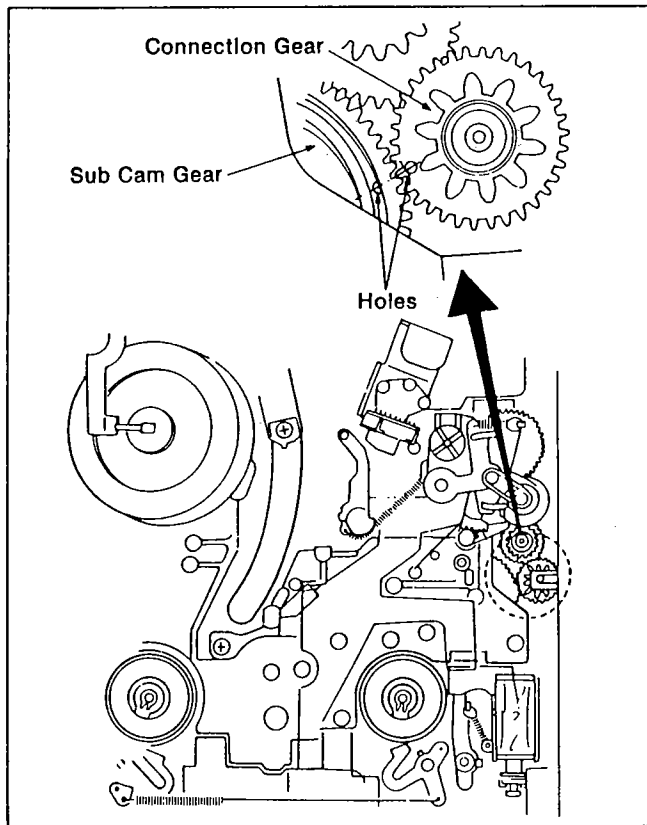

Figure M50
1. Install the Connection Gear so that the small hole in the Connection Gear aligns with the small hole in the Sub Cam Gear as shown in Figure M50.